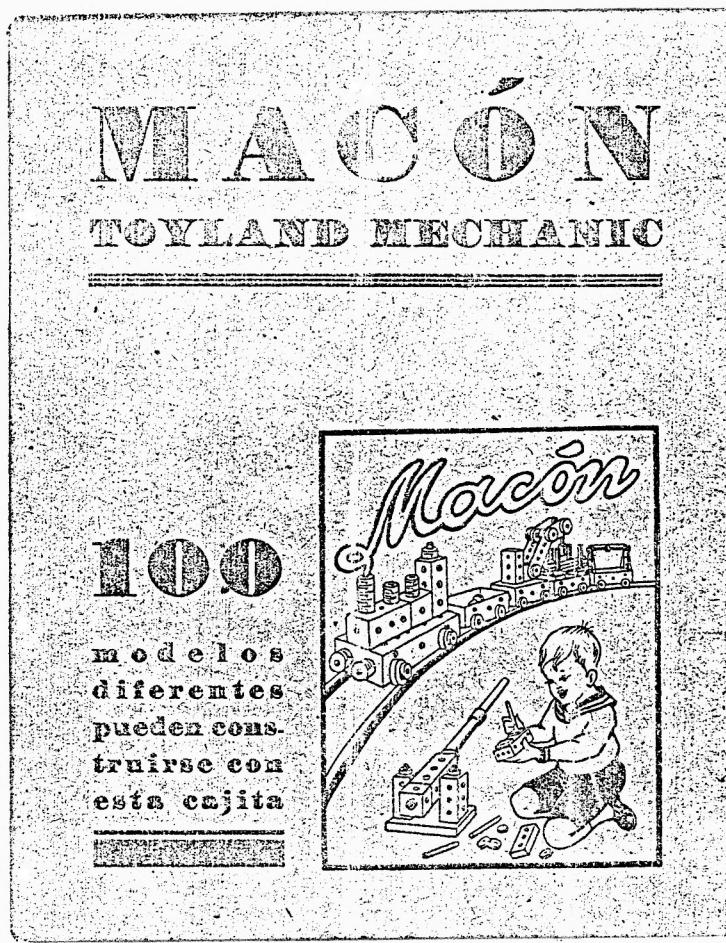

FIG 1
**CLOU (CLU)** The top of the sleeve is shown in MCS, but at the bottom of it, on a set belonging to Jim Gamble, are D.R.P.a. and U.S.A.pend. (Fig 2). The underside of the sleeve is printed to look like a (Scandinavian) matchbox (Fig 1), the main name on it, SÄKERHETS TÄNDSTICKOR means probably Safety Matches, and whether the MADE IN GERMANY at the bottom is the country of origin or part of the cover being copied is not clear. The other lettering looks Scandinavian, all about matches by the look of it, except that the words around the 'medals' are in German, and translated read: Wilhelm I, Emperor of Germany; (Bism)ark, German Chancellor; Moltke General... [a German general]; Crown Prince of Germany. So what does one make of that, I suppose that the chances are that the set was made in Germany. A photocopy of the parts is shown opposite and they are labelled A-N for reference. The hole spacing is 8.6mm and the holes have a diameter which varies between 3.1 and 3.2mm. The set contains: 1xA, 1xB, 2xC, 1xD, 2xE, 2xF, 2xG, 2xH, 2xI, 8xJ, 8xK, 36xL, 4xM, 2xN. Note that #G is not in MCS, and that the composition of the set is slightly different.